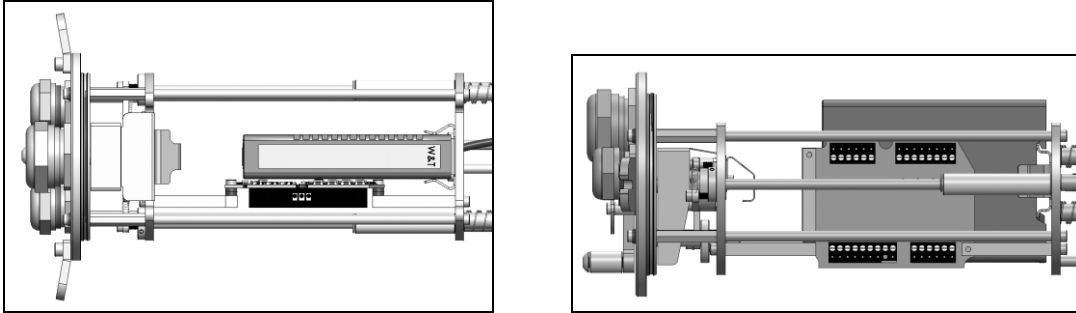

Figure 48 (a + b): Fitting the USB server Gigabit into the chassis (top view and right hand view)
6. Engage the USB server Gigabit to the DIN rail plate (**Figure 48**).